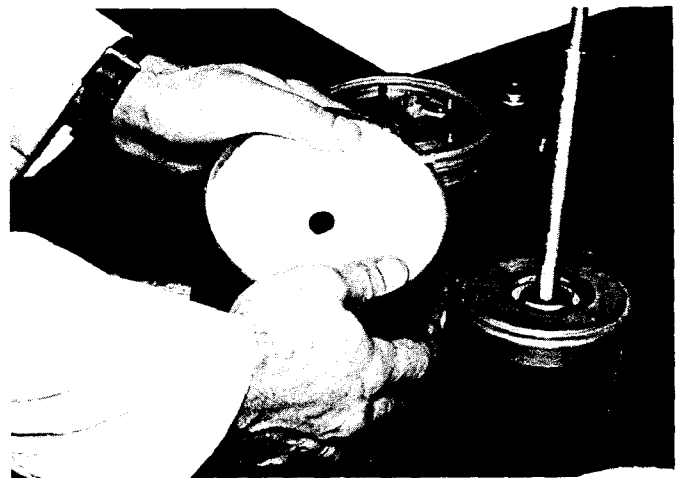

Figure 8 ASSEMBLY OF DESICCANT CARTRIDGE
1. Insert one of the perforated plates into the cartridge, **cloth side up**, and tap it firmly to the bottom. (Cloth always faces desiccant material.) (See Figure 8)